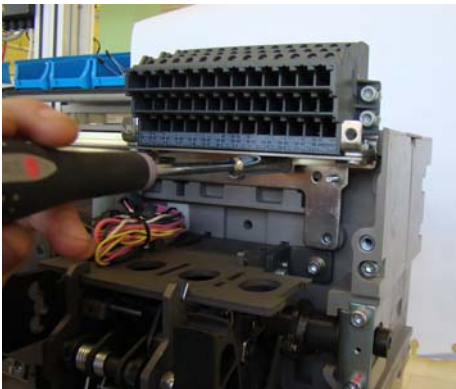

Figure 2. Nut Removal
5. Remove the 3 nuts as shown in fig 2.